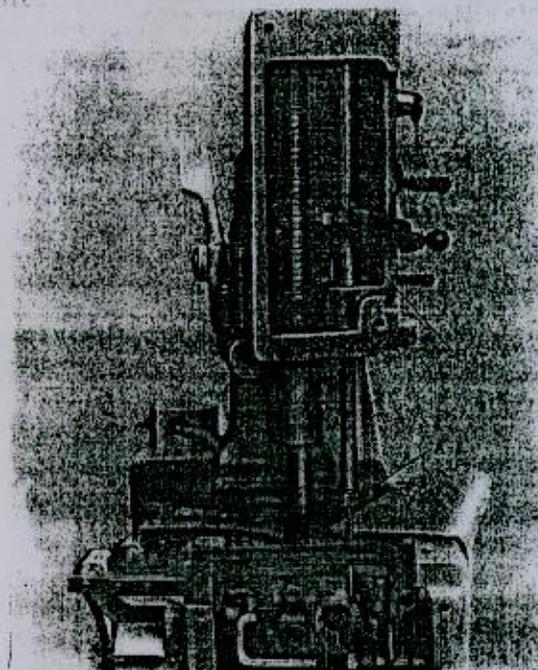
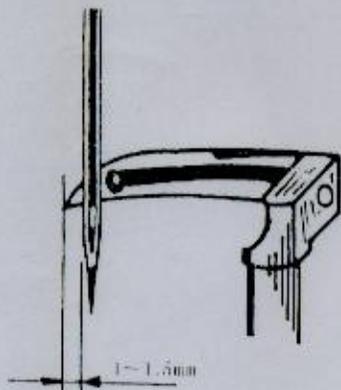

Fig. 3
Fig. 7
The needle is vulnerable part. When the needle eye wear out obviously, needle point wear dull or bend, replace the needle. When replacing the needle, turn the pulley until the bar reaches its highest point. Loosen the needle set screw (A, Fig. 3), and insert a new needle with the shank as far as possible into the needle bar. The needle groove must point to the sewing material direction. Then retighten the needle set screw.
Remove the needle plate. Rotate the machine pulley in operating direction until the looper moving to the left. When the looper point projects 1-1.5mm (.040 to .060 in.) left of the needle, lower edge of looper and upper edge of needle eye must be flush in this position. (Fig. 7) For adjustment, loosen clamp screw (B, Fig. 3) in the needle bar up or down as required. Retighten screw (B) and remount needle plate.